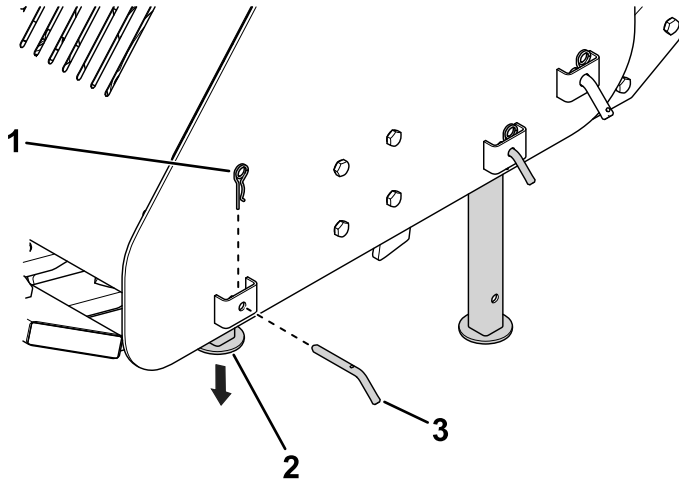

Figure 23
2. Lower the attachment stands (Figure 23).